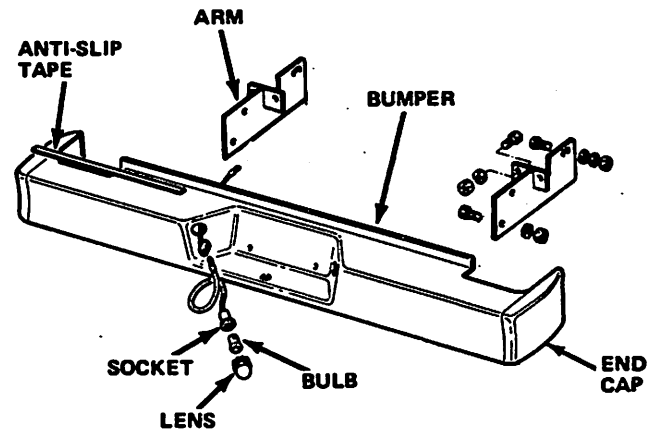

Fig. 3F-22 Rear Step Bumper—Scrambler and Truck Models
- (1) Disconnect license lamp wiring (fig. 3F-22) from vehicle wiring.